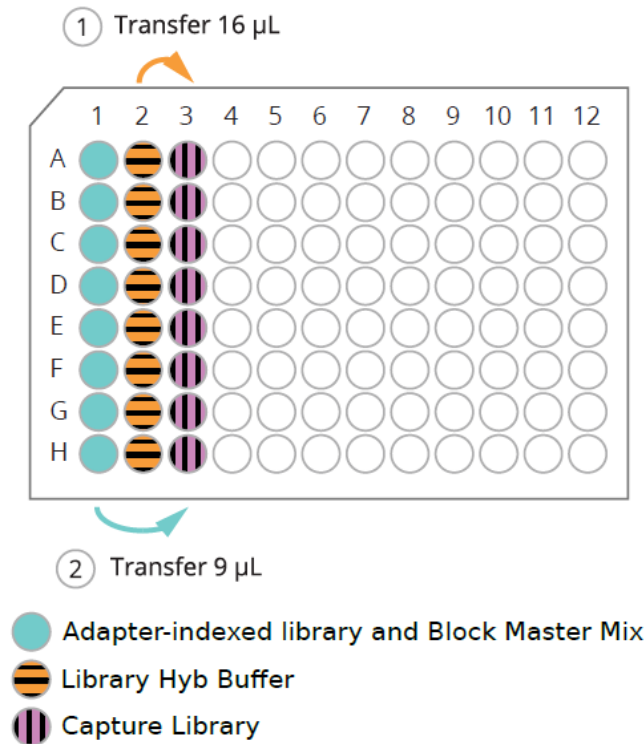

Figure 7. Transfer 16 µl from Column 2 to Column 3 and 9 µl from Column 1 to Column 3.
- f. Quickly transfer **16 µl** of the **Library Hyb Buffer (column 2)** into the Capture Library Mix (column 3) and mix well by pipetting up and down 2-3 times (Figure 7. ①). Avoid generating air bubbles.
- g. Transfer **9 µl** (entire amount) of **Block Mix with DNA library (column 1)** into column 3 containing the remaining reagents and mix well by pipetting up and down 5-10 times (Figure 7. ②). Avoid generating air bubbles.